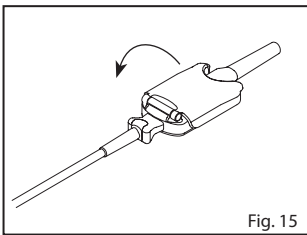

Fig. 15
1. Refer to **Fig. 15**. While holding the sides of patient cable connector, lift sensor connector cover from patient cable connector.